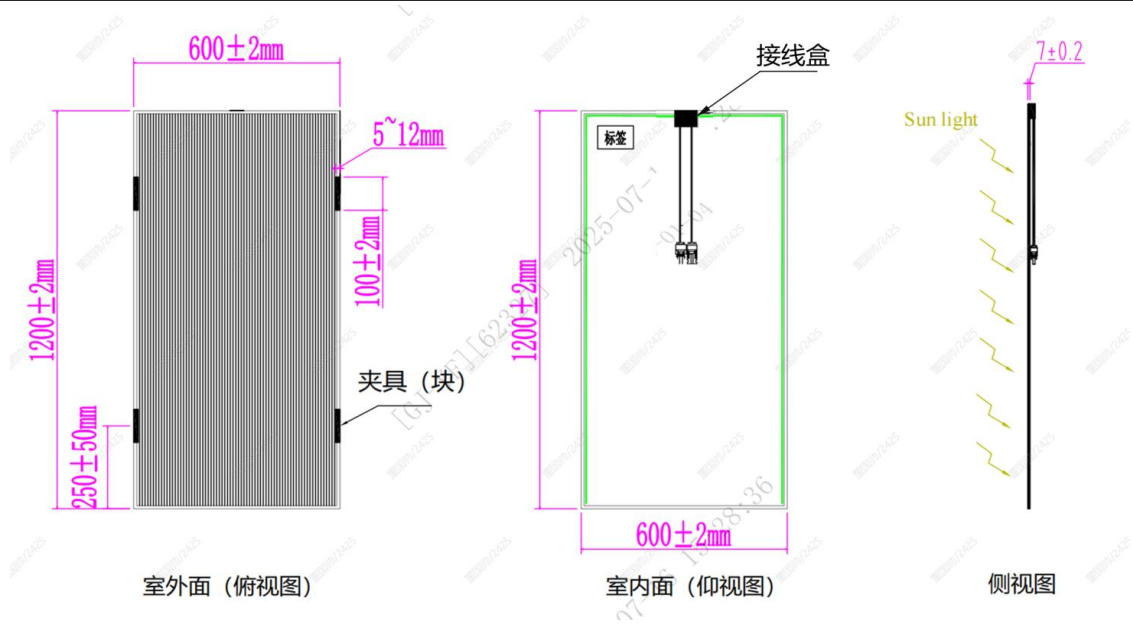

Figure 2 Component Installation Diagram
8.3.1. Components must be installed using specialized clamps. The installation point with a load capacity of 2400 Pa is shown in Figure 2. The clamps should be positioned along the 1200 mm length of the component, with the center points of the two clamps at each end located 250 ± 50 mm inward from the short edge of the component, as illustrated in Figure 2.